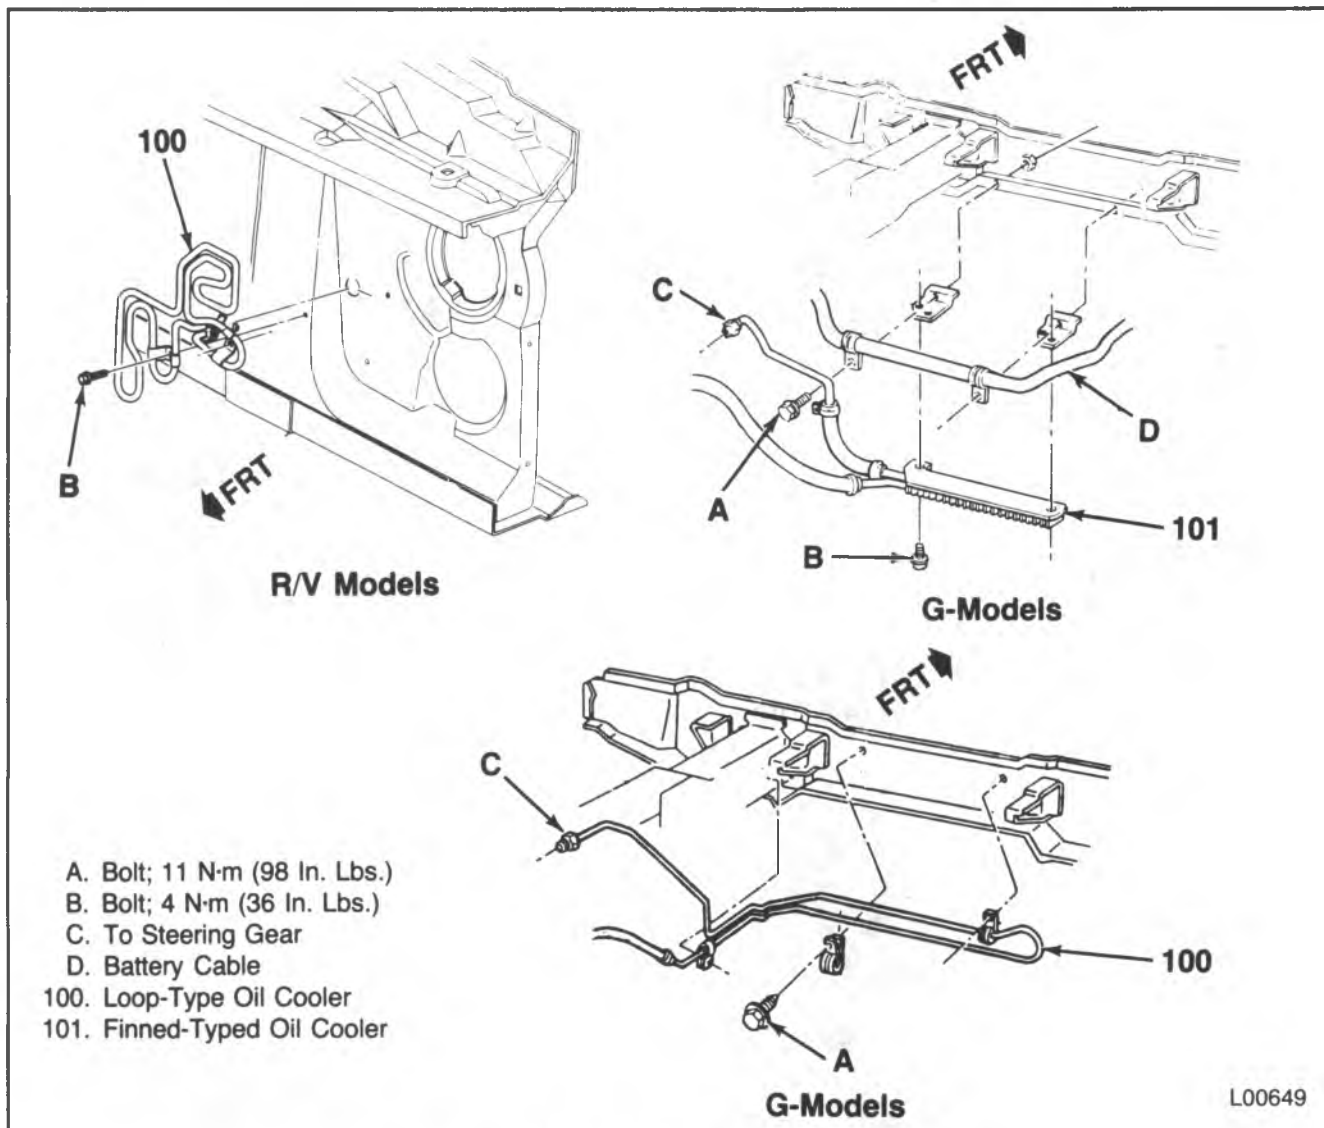

Figure 33 — Power Steering Oil Coolers
Some models are equipped with power steering system oil coolers. Two types of coolers are used: tubular loop-type and finned-type (figure 33).
Remove or Disconnect (Figure 33)
Install or Connect (Figure 33)
- Bolts to specifications shown on figure 33.